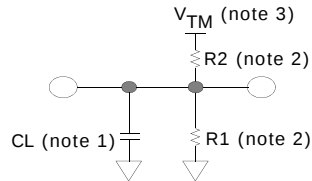

Figure 32. AC Output Load
- Output load (See Figure 32): $CL = 30pF + 1TTL$